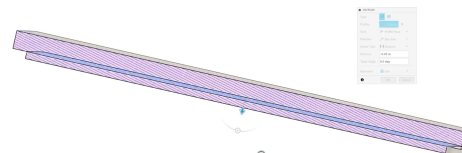

Figure 1.3
- Make sure that before extruding, hide the bottom box to avoid accidentally joining both components. Once you've hidden you'll only see the analysis of the lid (see Figure 1.3).